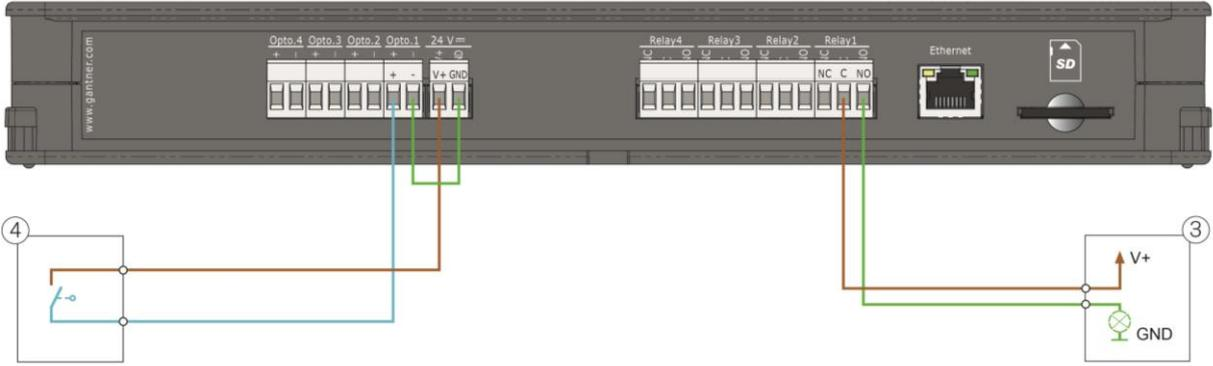

Figure 4.16 – Relay and optocoupler connection example
The outputs connect to the corresponding inputs of the controlled device. The supply voltage can be taken from the GAT NET.Controller M 7020 or supplied by another source. Figure 4.16 is an example of how an external device (3) can connect to the relay output.
Figure 4.16 also provides an example of how an external device (4) can connect to the optocoupler input.